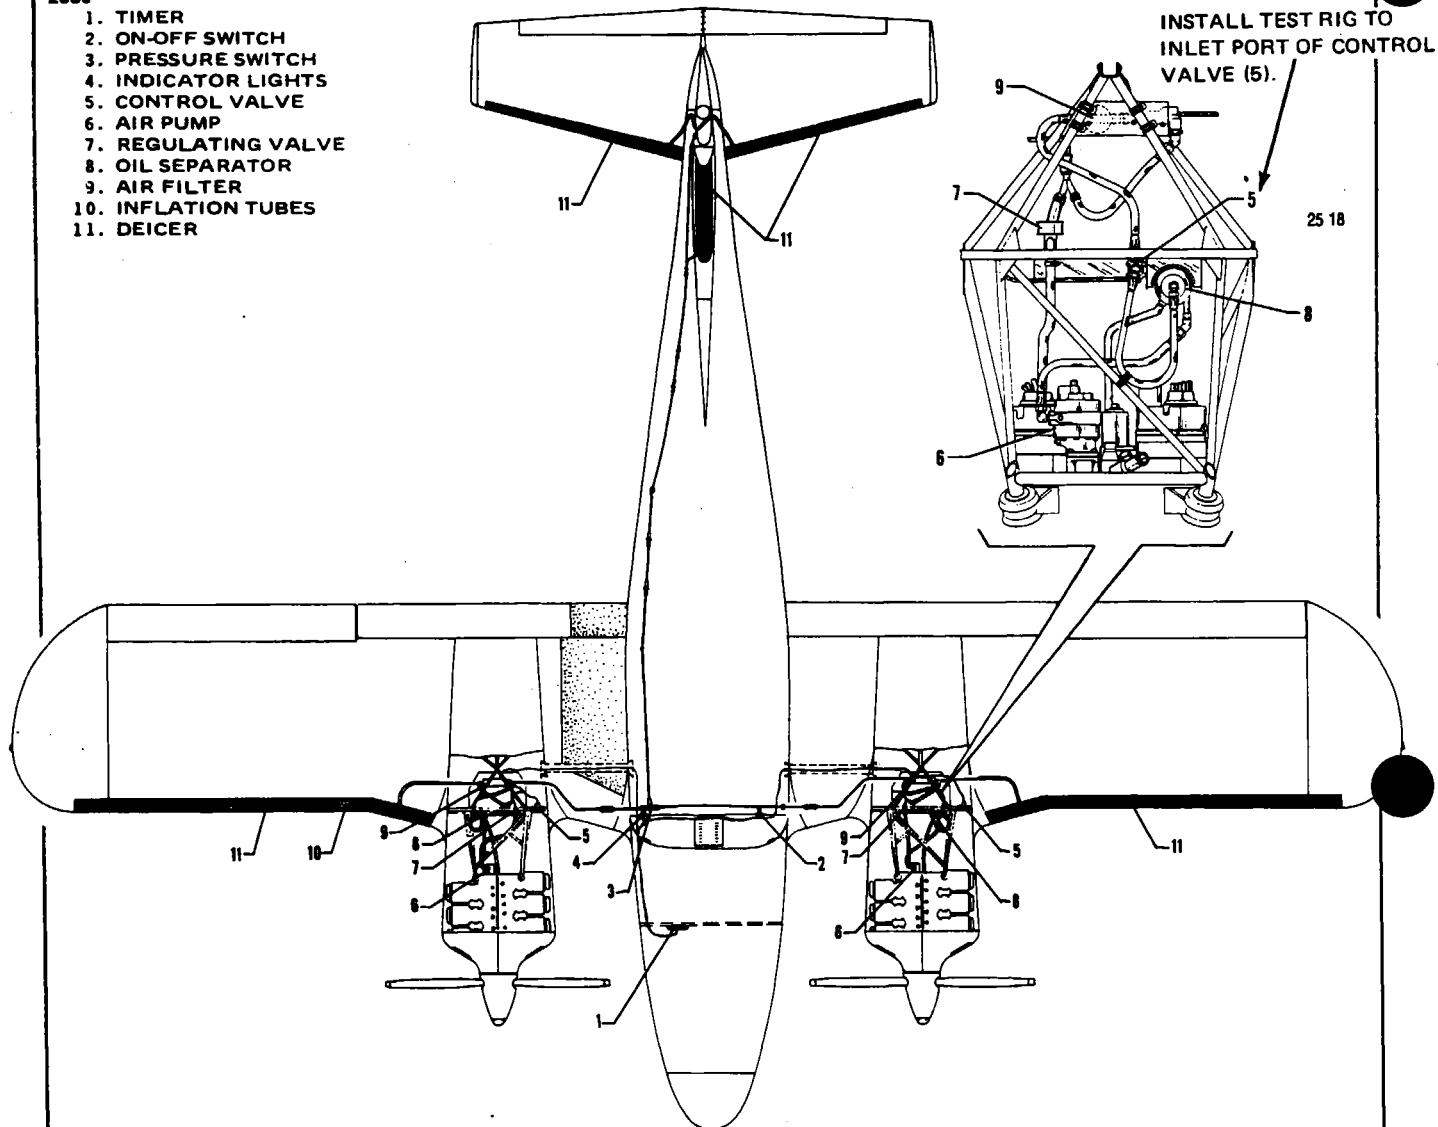
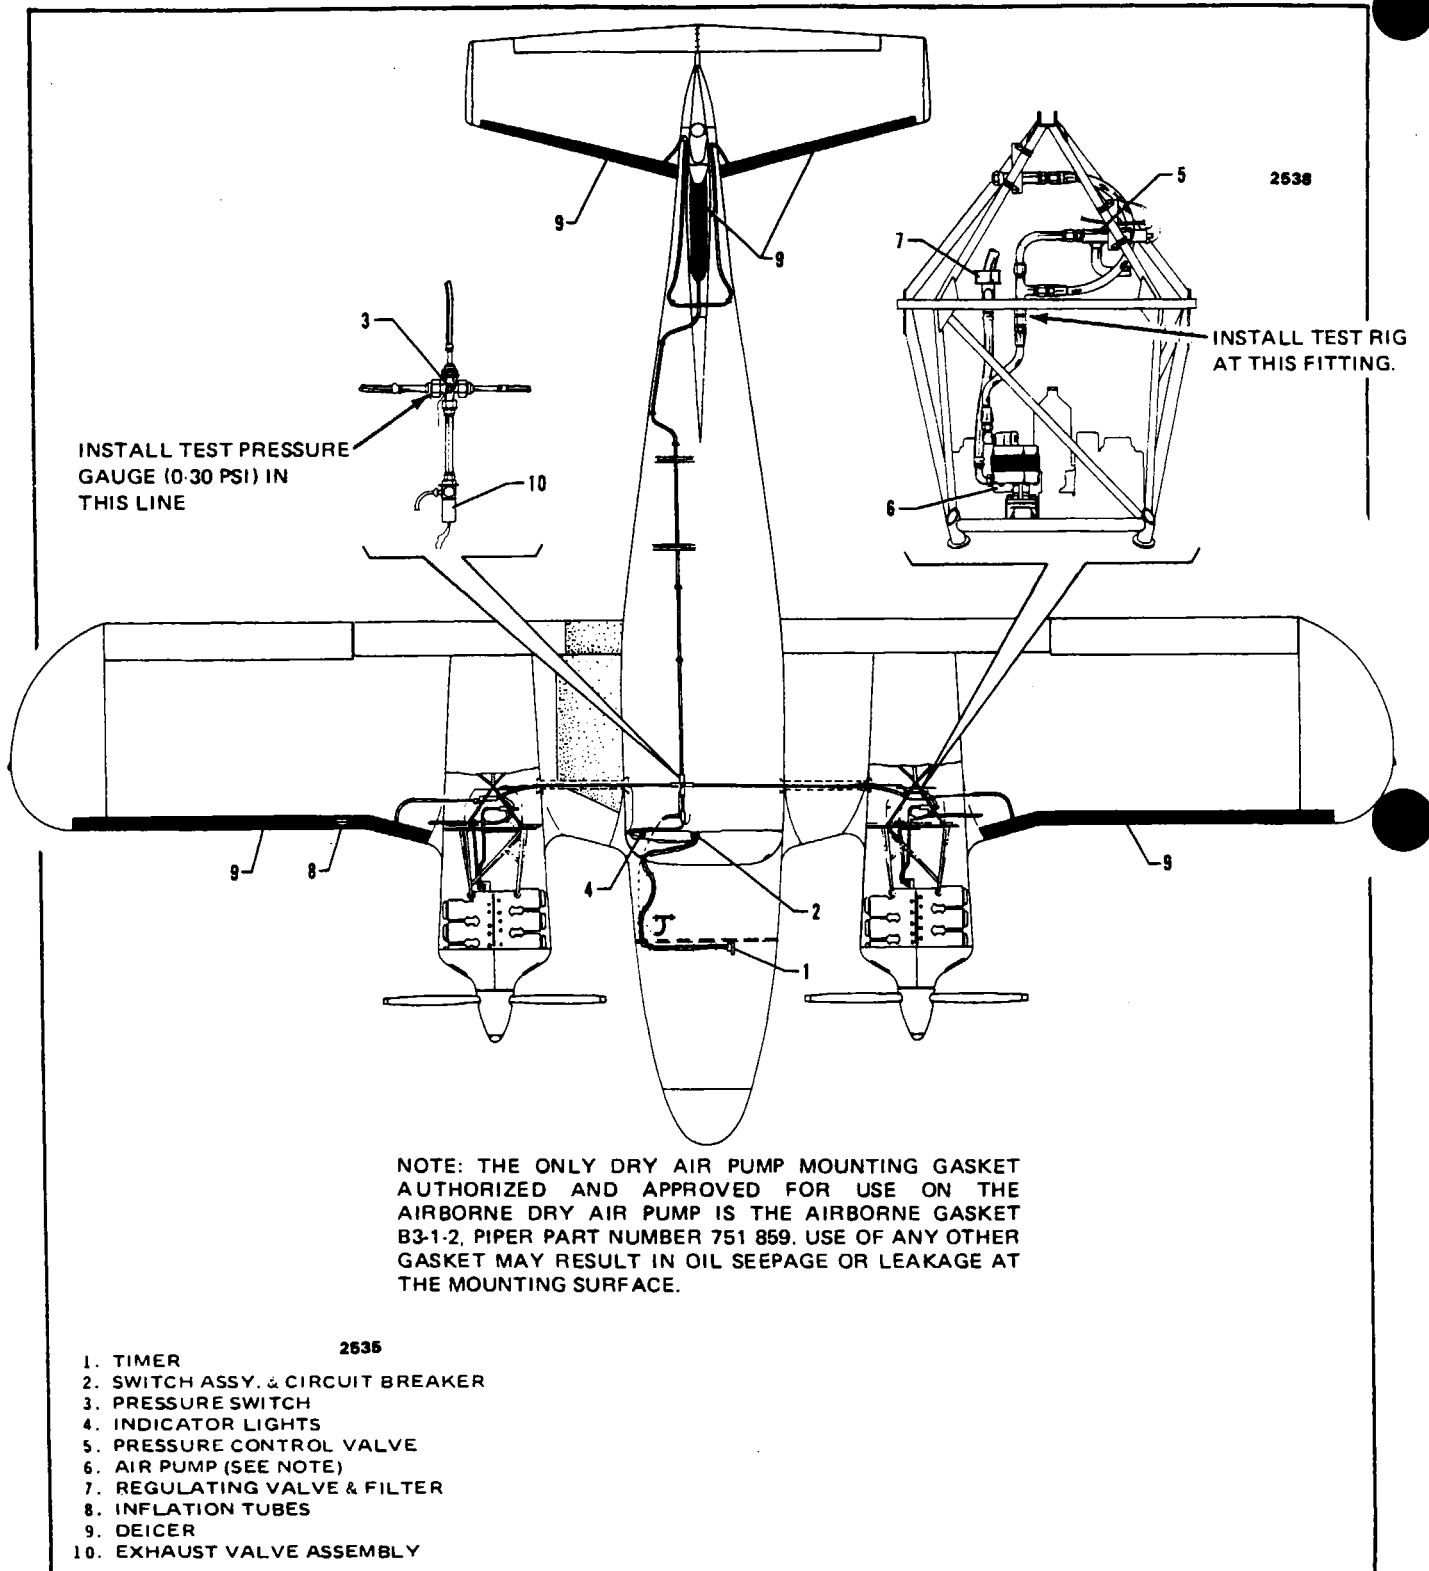

Figure 14-30. Pneumatic Deicing Installation (Wet Vacuum Pump),
Figure 14-32. Pneumatic-Deicing Installation (Dry Vacuum Pump),
- d. On Goodrich systems per Figure 14-32 disconnect the hose from the firewall bulkhead fitting (pump side) and attach the test rig to this port. Manually depress the solenoid plunger pin in the exhaust valve (if installed) and pressure control valves in the nacelle where the test rig is installed. Apply 15 psig to the system, and using the shut-off valve, trap this pressure in this portion of the system. A soap solution may be used to check for leaks. A pressure drop should not exceed 3 psig per minute. On Goodrich systems per Figures 14-30 and 14-31 cap the overboard port of one of the control valves. Connect a source of clean air to the inlet port of the control valve. Apply 18 psig to the system and by using the shut-off valve, trap the pressure in the deicer system. Observe the system for leakage. The leakage rate should not exceed a pressure drop of 3 psig per minute.
- h. On Goodrich systems referenced in Figure 14-32 an actual operating pressure test should be performed in the following manner: